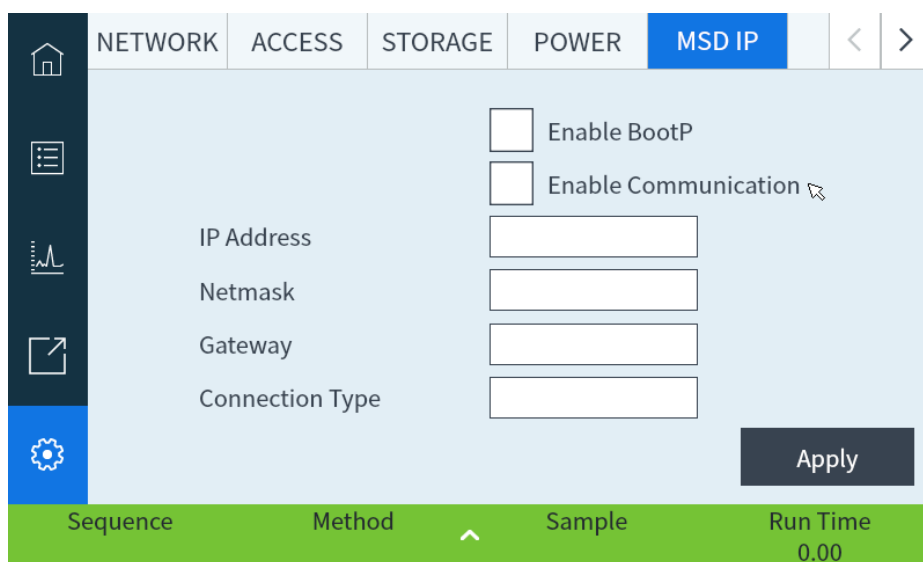

Figure 20. Detector MSD settings page
1. From the touchscreen, select the settings page, and then the MSD config tab. See Figure 20.